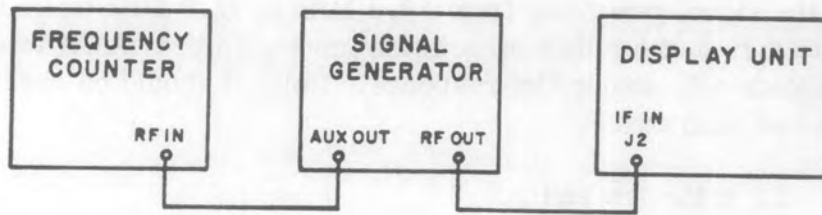

Figure 4-6. Test Setup, 21.4 MHz IF Amplifier Touch-Up Alignment
- (1) Connect the equipment as shown in Figure 4-6.
- (2) Set the signal monitor front panel controls as follows:
- (3) After the markers are centered on the crt, turn them off.
- (4) Set the signal generator to 21.4 MHz at a level to give a pip at about 3/4 scale.